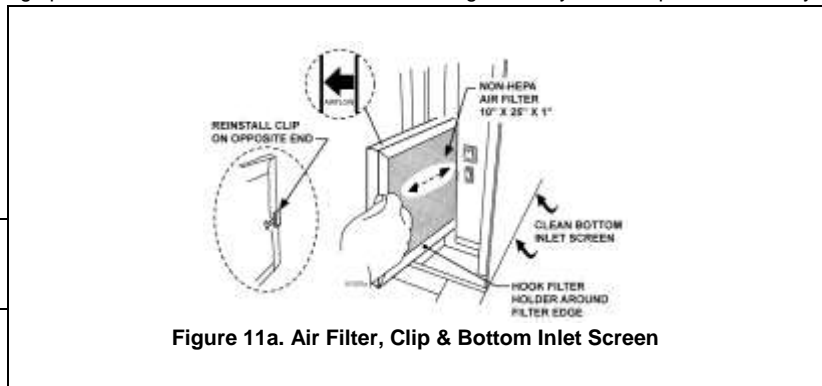

Figure 11a. Air Filter, Clip & Bottom Inlet Screen
The inlet screen is a long narrow screen located on the bottom right side. It can only be accessed from underneath the cabinet. See Figure 11a on page 22. Remove dust and debris from the inlet screen to allow air to flow to the condenser coils.
- Is the condenser fan running? Fold a sheet of 8 1/2" x 11" paper in half. Place the paper in front of the condenser coil inlet screen located on the bottom right side underneath the cabinet and see if it draws the paper to it. See Figure 11a on page 22.